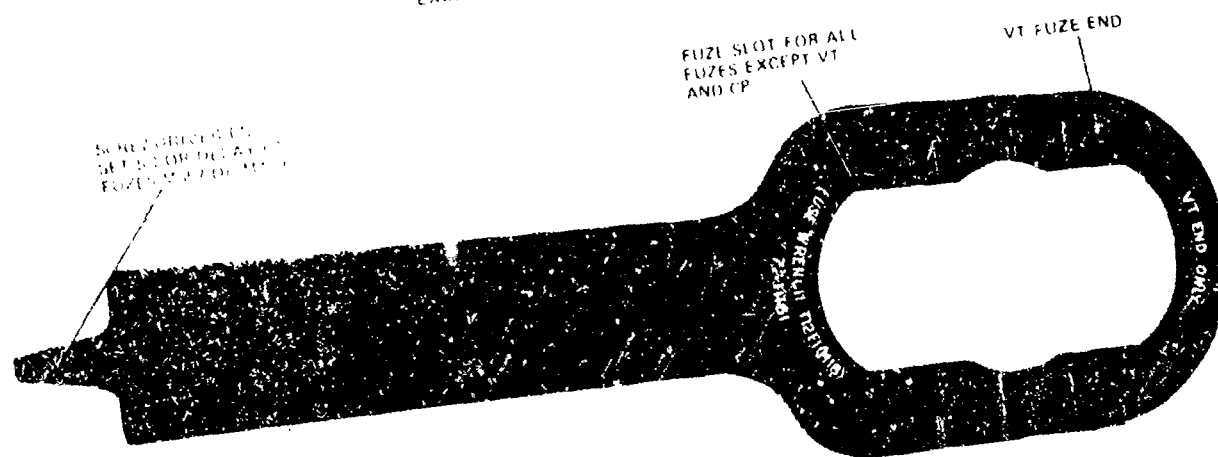
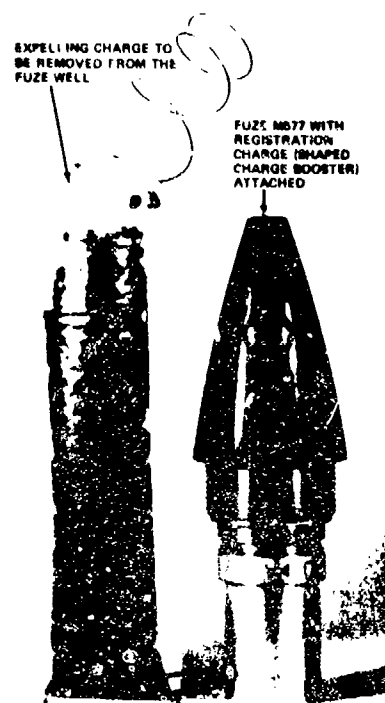
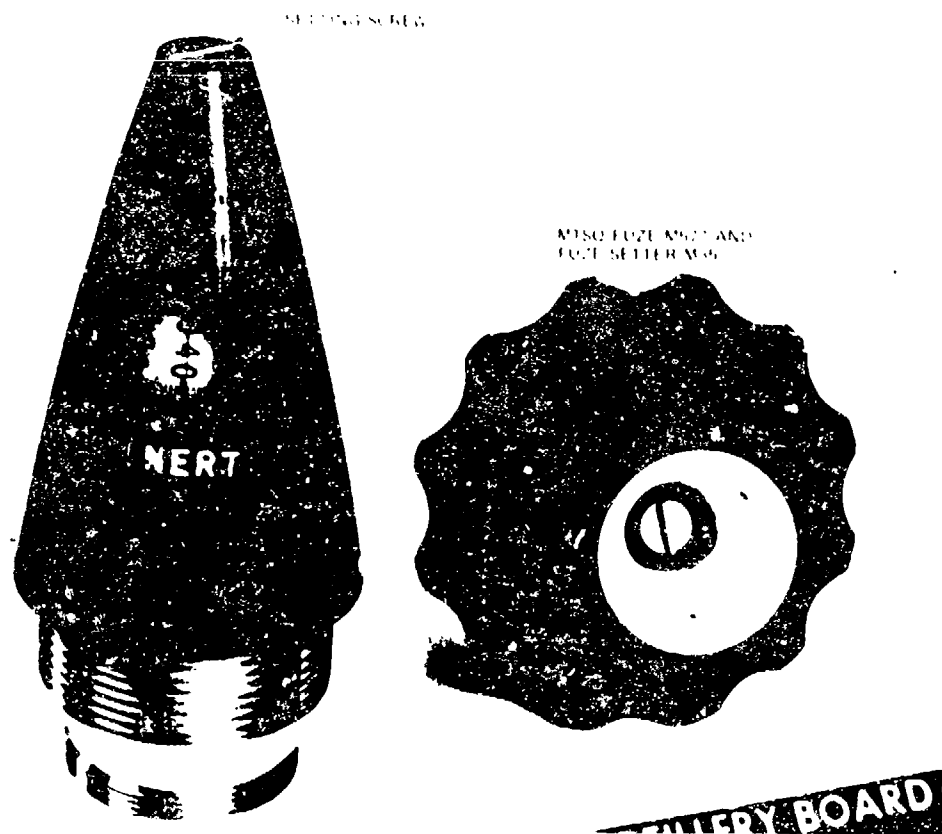
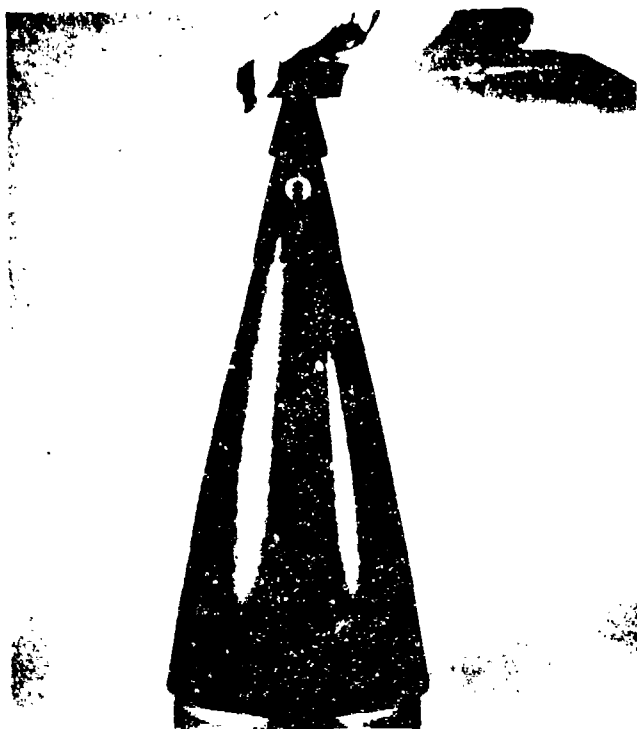

Figure 11-17. Fuze wrench M18.
Figure 11-27. Fuze M577 prepared for registration
Figure 11-28. Fuze M577 and fuze setter M35.
Figure 11-29. Operational view showing use of fuze setter M35 on MTSQ fuze M577 or M582.
d. *Installing the M501 fuze.* Install the M501 fuze in the old smoke or illuminating projectile by removing the closing plug (or eyebolt lifting plug) from the projectile, inspecting the fuze well, placing the fuze in the fuze well of the projectile, and tightening the fuze by hand. Next, place the M18 fuze wrench (fig 11-17) correctly on the fuze so that you can turn the wrench counterclockwise about  $\frac{1}{4}$  turn to loosen the fuze. Then with your hand on the handle of the wrench, turn the wrench sharply and firmly clockwise to tighten the fuze to the projectile. Do not use an extension on the fuze wrench. Be sure that there are no threads showing and that the fuze fits snug against the nose of the projectile.
*e. Installing the M564 or M565 fuze.* The M564 or M565 fuze is installed in the correct fuze well with the M18 fuze wrench (fig 11-17). Remove the closing plug (on 105-mm projectiles), or the eyebolt lifting plug (on separate-loading projectiles), inspect the fuze well, and then hand-tighten the M564 or M565 fuze in the appropriate projectile. Place the M18 fuze wrench on the fuze so that you can turn the wrench counterclockwise about 1/4 turn to slightly loosen the fuze. Then with your hand on the handle of the wrench, turn the wrench sharply and firmly to tighten the fuze to the projectile. There should be no threads showing and the fuze should fit snugly against the nose of the projectile.
b. *M577 MTSQ fuze.* The M577 MTSQ fuze is in production and it is intended for use with a base-ejection projectile to expel the payload over the target area by mechanical time action. However, this fuze can be fitted with a special shaped-charge booster (fig 11-27) and used with the newer antipersonnel and antimateriel (ICM) projectiles M483 and M509 to make them blow up like conventional high-explosive rounds.
c. *M582 MTSQ fuze.* The M582 MTSQ fuze is not in production at this time, but is intended for use with spin-stabilized burster-type high-explosive projectiles when mechanical-time settings up to 200 seconds or impact superquick functioning is desired. This fuze will be shipped with its own booster assembled and should not be used in a base-ejection round. This fuze must never be fired without a setting placed on it; that is, a setting for impact action (e(1) below) or time action (e(2) below).
d. *Installing the M577 or M582 fuze.* Install the M577 or M582 fuze in the fuze well of the appropriate projectile by using the M18 fuze wrench (fig 11-17). Remove the closure plug (on 105-mm projectiles) or the eyebolt lifting plug (on separate-loading projectiles), inspect the fuze well, and then screw the M577 or M582 fuze in the appropriate projectile until it is handtight. Place the M18 fuze wrench on the fuze so that you can turn the wrench counterclockwise about ¼ turn. Tighten the fuze to the projectile with a sharp snap of the wrench in the clockwise direction. There should be no threads showing and the fuze should
(1) *Special assembly, registration mode.* A special shaped-charge booster (fig 11-27) is available for use with the M577 fuze and must be attached to the fuze for registering with the 155-mm (M483) or 8-inch (M509) ICM round. The expelling charge in the fuze well of the 155-mm projectile or the expelling charge in the 8-inch projectile must be removed before the M577 fuze with shaped-charge booster is installed in the projectile. This shaped-charge booster causes the ICM round to function in the same manner as a standard high-explosive round.
(3) *Special assembly, FFE mode, 8-inch projectile.* When the M577 fuze is used with the 8-inch (M509) antipersonnel-antimateriel ICM round for fire-for-effect action, the eyebolt lifting plug is removed, the fuze well inspected and the fuze is installed in the projectile (M509) in the same manner as described in (2) above.
e. *Setting the M577 or M582 fuze.* The fuze setting key (which looks like a slotted screwhead on the nose of the fuze) controls the three dials in the fuze. This key is used for setting either the M577 or the M582 fuze after it has been screwed into the projectile. Place the M35 fuze setter (fig 11-28) over the nose of the fuze. With the palm of your hand pressing in on the top of the fuze setter (fig 11-29), rotate it counterclockwise so that the screwdriver-like blade in the cone of the fuze setter engages the slot in the top of the fuze. Set the appropriate numbers under the hairline visible through the window on the nose of the fuze.